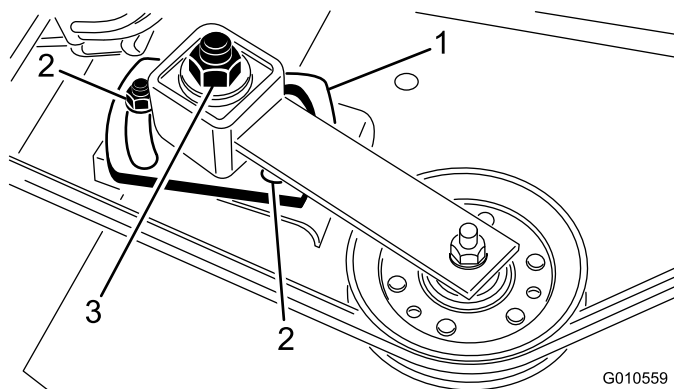

Figure 28
4. Loosen the 2 nuts securing the idler plate in place. Using a socket and torque wrench, tighten the idler adjusting nut to 25-30 ft-lb (24-41 N-m) (Figure 28).